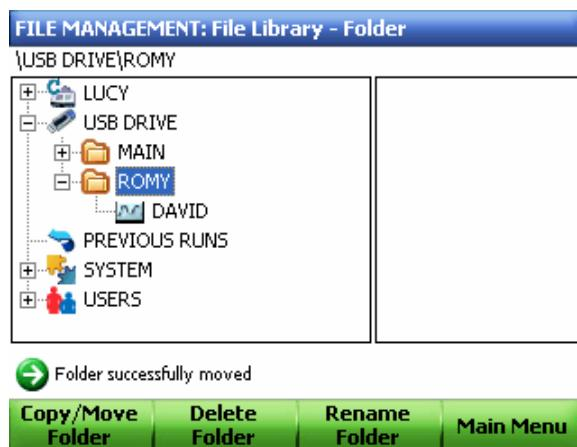

Figure 85. The ROMY folder is moved into the USB key.
6. Select **Yes** to confirm that the folder was successfully moved (Figure 85).